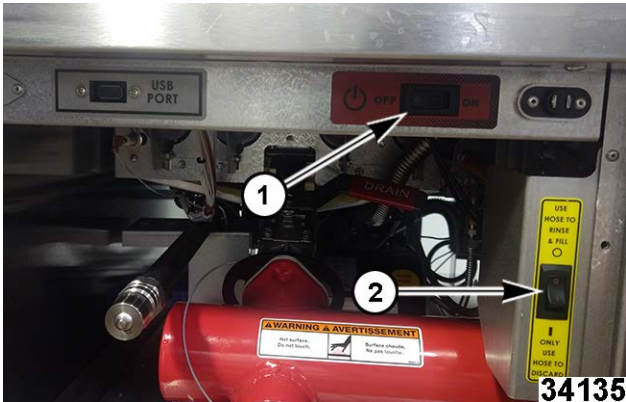

Fig. 28
1. Open door to locate power switch (1, Fig. 28) and discard hose switch (2, Fig. 28).